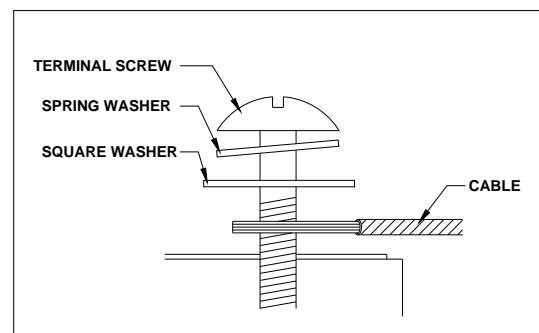

Figure 4. Ring or Spade Terminal Connectors
- The wire used to interconnect PV modules may be single or two conductors, from 14AWG (2.08 mm²) up to 10AWG (5.26 mm²) gauge stranded copper wire, in a "SUNLIGHT RESISTANT" and insulated for 90°C minimum jacket cable. This cable is suitable for applications where wiring is exposed to the direct rays of the sun. The maximum and minimum outer diameters of the cable that may be used with the cable connector are 8 mm and 6 mm respectively (Figure 4).